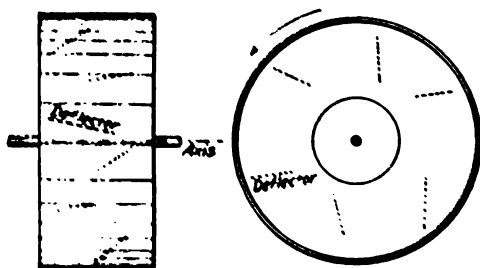

Fig. 1.
(1) A revolving drum or cylinder (with horizontal axis), fitted inside with deflectors, and capable of receiving and discharging a batch without stopping. The concrete is visible during the operation of mixing. Fig. 1.